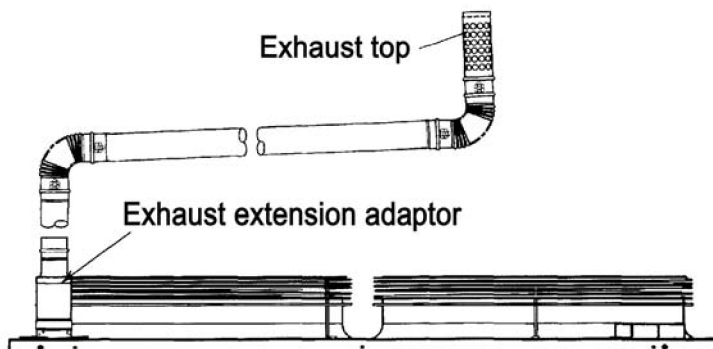

Figure 5
- c) Be sure to attach the exhaust top vertically as shown in Figure 5.